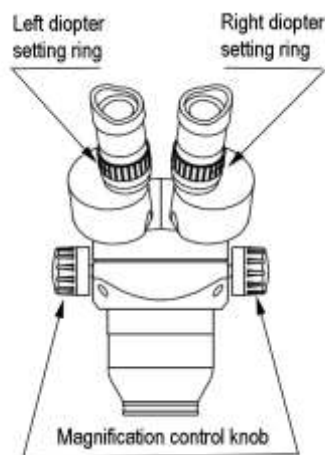

Fig. 2
3.3 Set the microscope to minimum magnification by turning the magnification control knobs. Set the diopter setting ring to minimum(ps. ZSM100A only have the left diopter setting ring) (fig. 2);